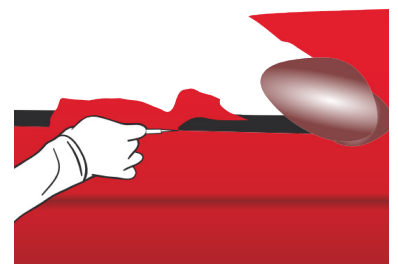

Figure 31
- › During cutting, the cutter blade must be placed in a flat position, between the body and the seal, and perpendicular to the seal. Carry out the cutting operation by always maintaining this blade orientation. (FIG. 31)